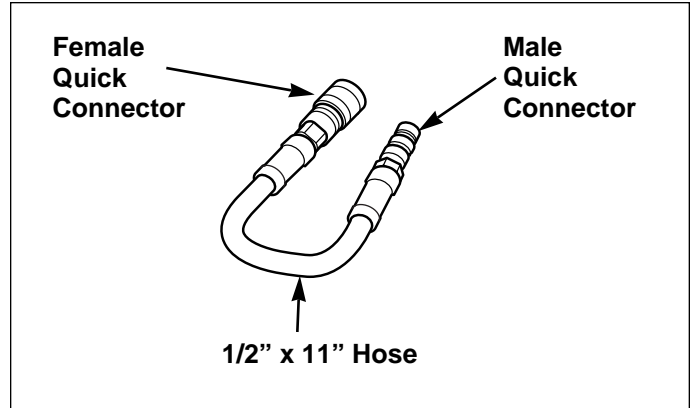

Figure 31. Assemble Bypass Hose
10. Install a male and female quick connector on the 1/2" x 11" hose (see Figure 31). This hose must be installed when the dozer blade is removed from the tractor.
After removing the dozer blade, do not operate the tractor without first installing the bypass hose (Figure 31).